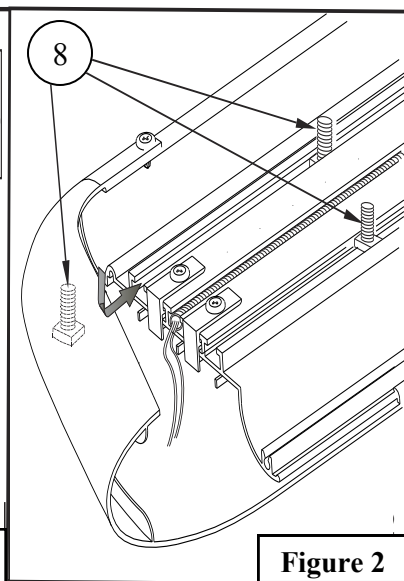
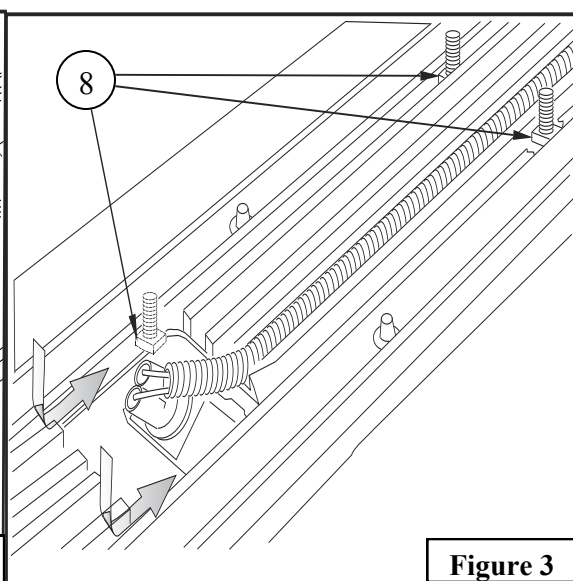
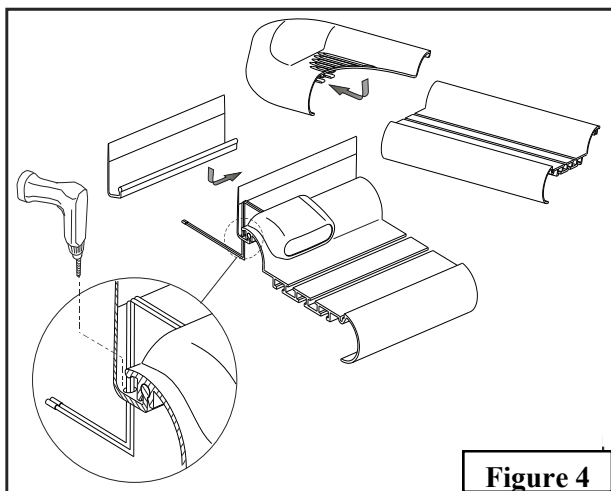

Figure 2
Figure 3
Figure 4
3. Insert square head bolts as shown (2 per slot, 4 per board). See **Figures 2 and 3**. **Note:** For lighted boards, route wiring harness prior to attaching the board to the brackets (refer to **Step 5**). See **Figures 2 and 3**. Run the longer wire harness on the passenger side.
4. For Sure-Grip Running Boards, slide Sure Grip Gap strip as shown. Set lights (optional) in appropriate location. Attach the lights to Sure-Grip Running Board as shown. See **Figure 2**. Drill hole through plastic strip and run wires as shown. See **Figure 4**.
WARNING: INSTALLING LIGHT HARNESS REQUIRES SPLICING INTO VEHICLES ELECTRICAL SYSTEM. WESTIN RECOMMENDS USING A PROFESSIONAL FOR THIS INSTALLATION. NOTE: AVOID AREAS OF EXCESSIVE HEAT, VIBRATION, PINCH OR ROTATION WHEN SECURING HARNESS TO VEHICLE. CAUTION: ALWAYS USE A FUSED(+) POSITIVE SUPPLY SOURCE. UNDERCOAT SEAL FOR HARSH WEATHER. Hint: Step boards: For Longevity, check rubber seals before installation. Rubber grommets around red and blue wires going into rear sockets, should be inserted and recessed about 1/4". **Note:** Remove bulbs and apply white grease into sockets and replace bulbs. Apply RTV Silicone where lights go into socket. Install lights and run wire loom as shown. See **Figure 3**. For Sure-Grip Running Boards, run wire loom down center as shown. See **Figure 2**.